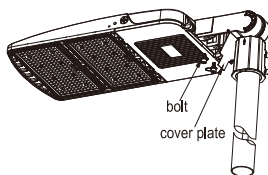

Fig 20
Step 5 . Fix the lamp into the fixing base of Type A+B bracket and tighten the two bolts with a wrench, as shown in Fig. 20